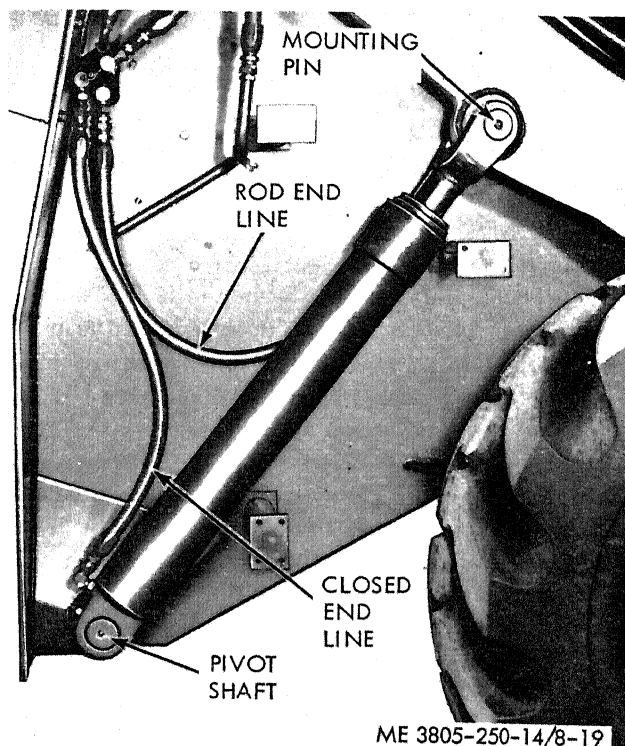

Figure 8-19. Lift cylinder, removal and installation.
a. *Lift Cylinder Removal.* Refer to figure 8-19.
(1) Lower the bucket to the ground. Wash the